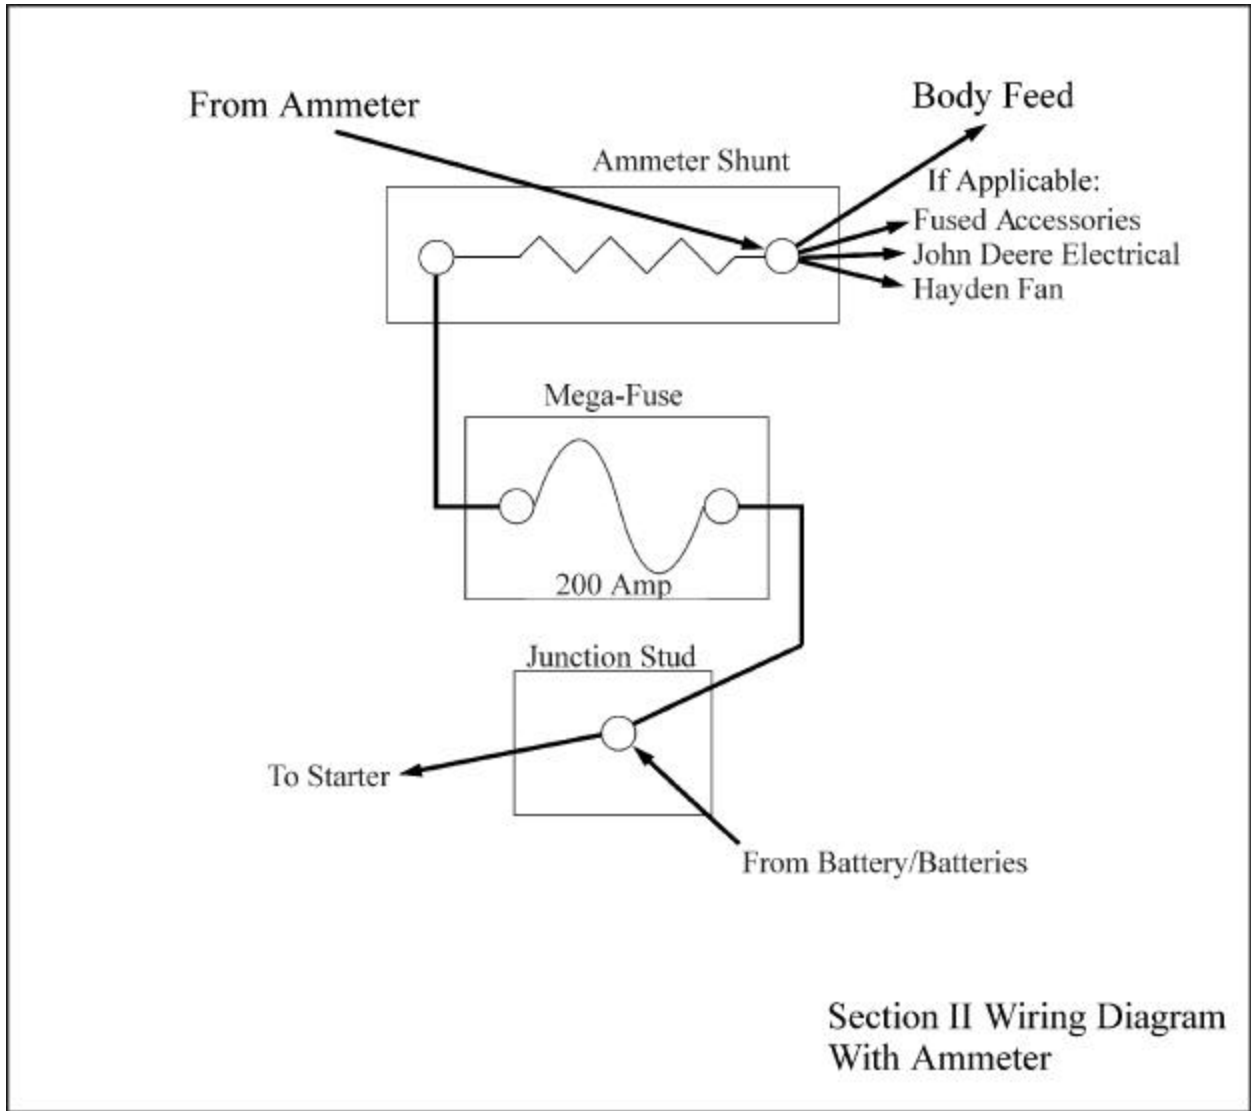
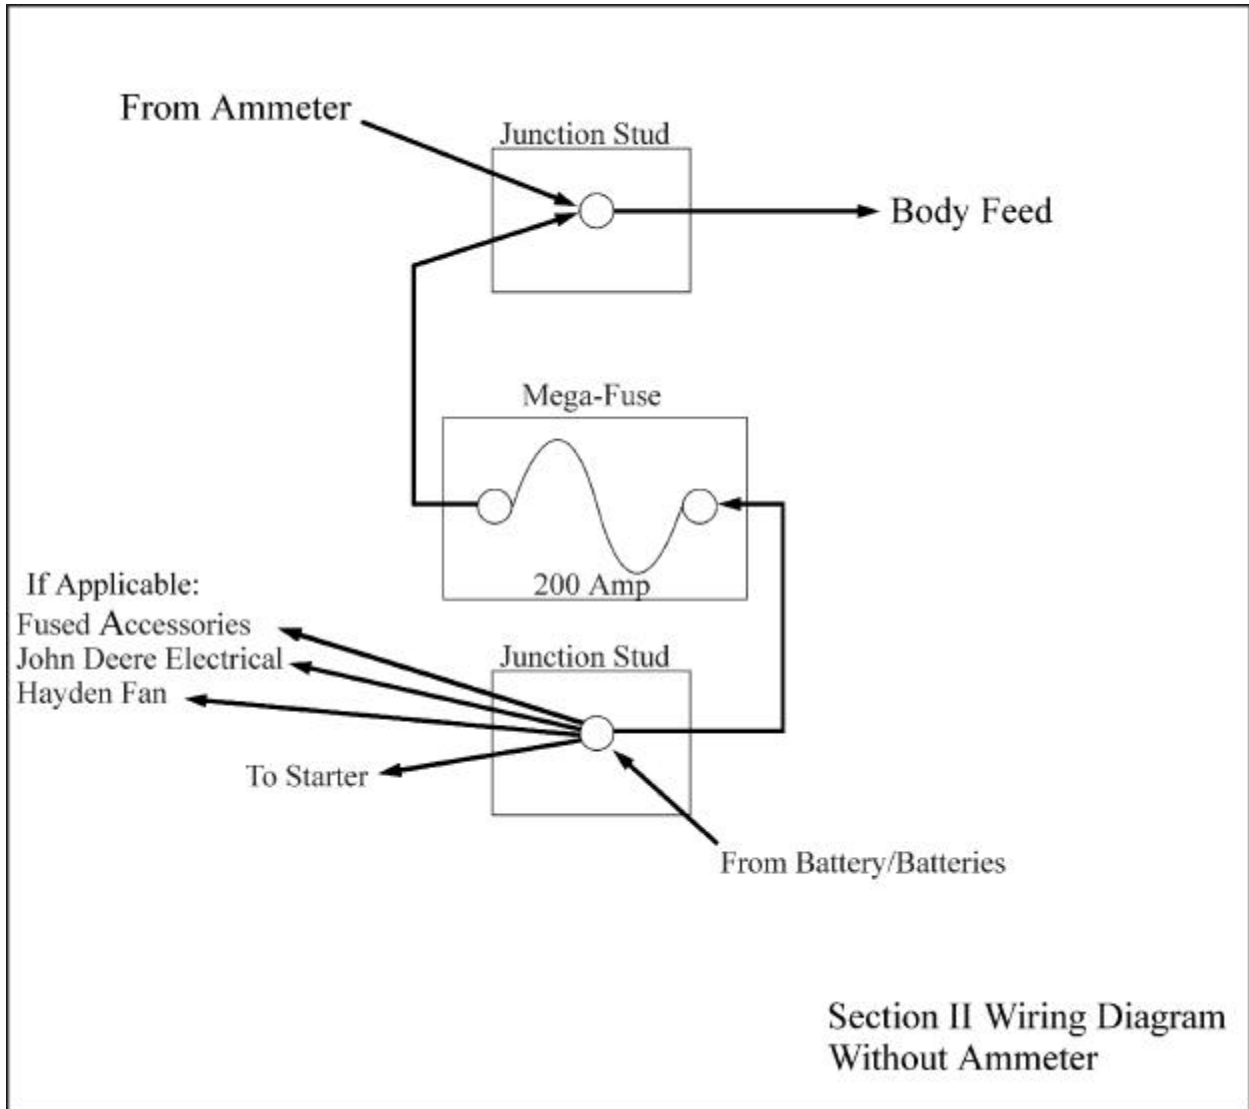

FIGURE 1
FIGURE 2
- D. Refer to Figure 1 (for units with ammeter) on page 5 and Figure 2 (for units without ammeter) on page 6 for the proper cable and wiring connections. Install the Mega-fuse and cable assemblies between circuits as required. Position the Mega-fuse to prevent interference to other wiring components.